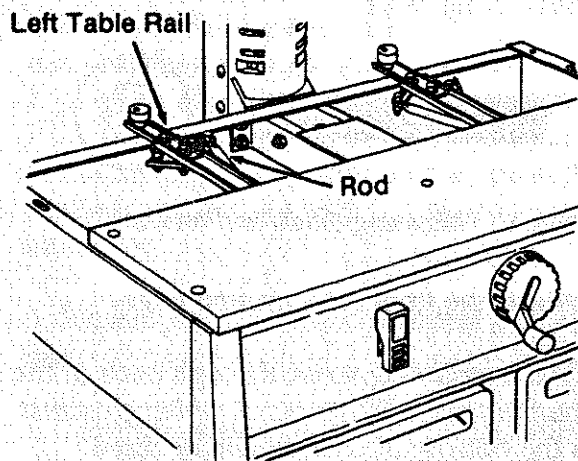

Fig. 83
10. Attach the left *rod* to the *left table rail* with a hex head bolt and flat washer. Then put another washer and a locknut on the bolt, and tighten using two 1/2 inch wrenches or sockets. (Figure 83)